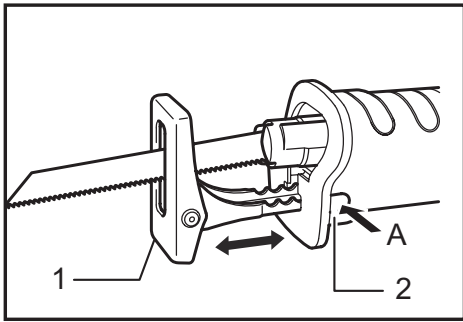

Fig.1
► Fig.1: 1. Shoe 2. Shoe button